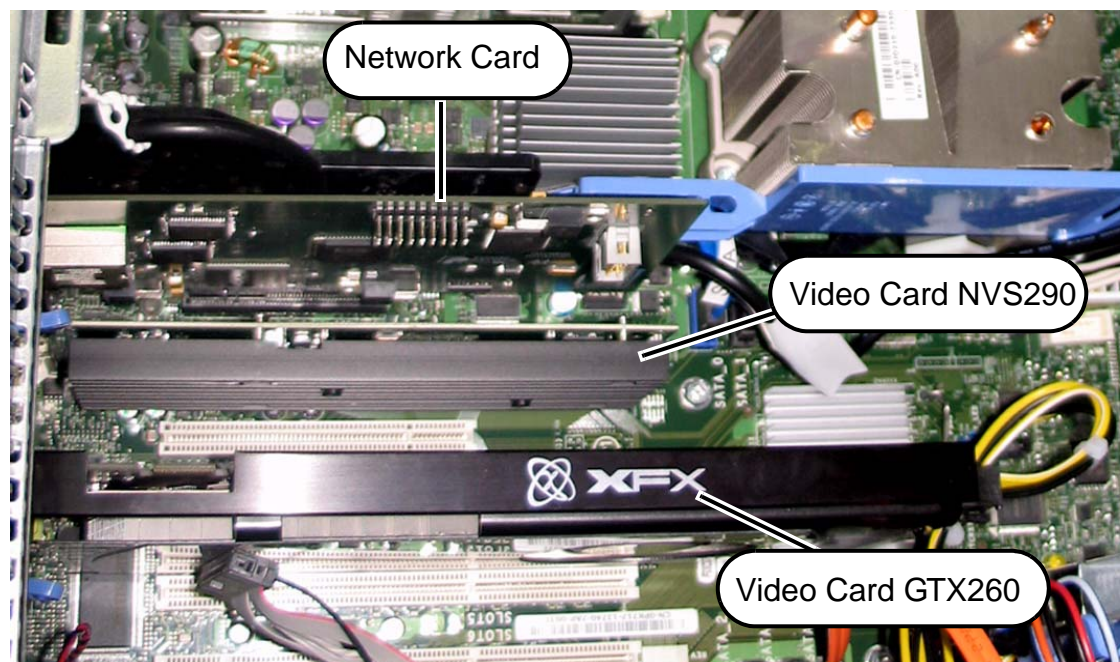

Figure 19: Inside Computer (Example)
2. Pull out the Network Card as shown in Figure 19.
2. Remove the Video Card GTX260 as shown in Figure 19 on page 25.
2. Disconnect the cable from Video Card NVS290 as shown in Figure 19 on page 25.